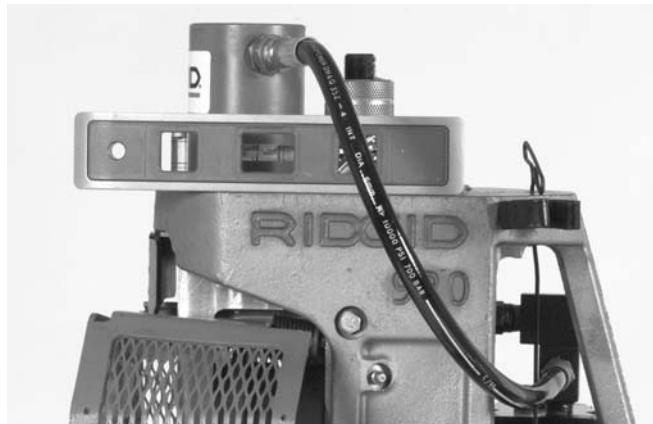

Figure 7 – Leveling Groover
8. Check that the groover is level and the unit is stable (*Figure 7*).